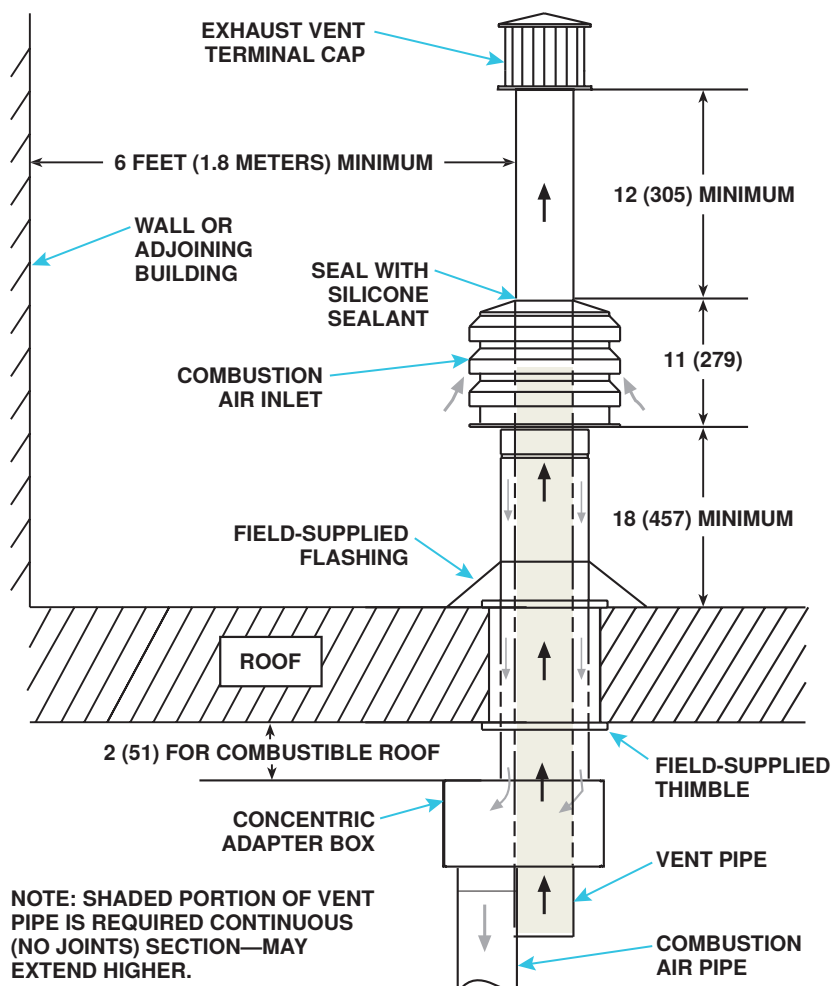

Figure 8. Option CC2 Installation
- b. Select location away from fresh air intakes, allowing space for concentric adapter box inside. Vent terminal must be located away from adjacent buildings as shown in Figure 8.
11. Verify compliance with Figure 8 and with all specifications and requirements listed in this manual.